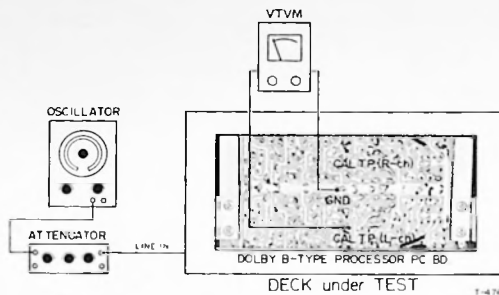

Fig. 7-8 Connection
9. Apply a 400 Hz signal at -5 dB (435 mV) to the LINE IN jacks. See Fig. 7-8.
CONNECTION: See Fig. 7-8